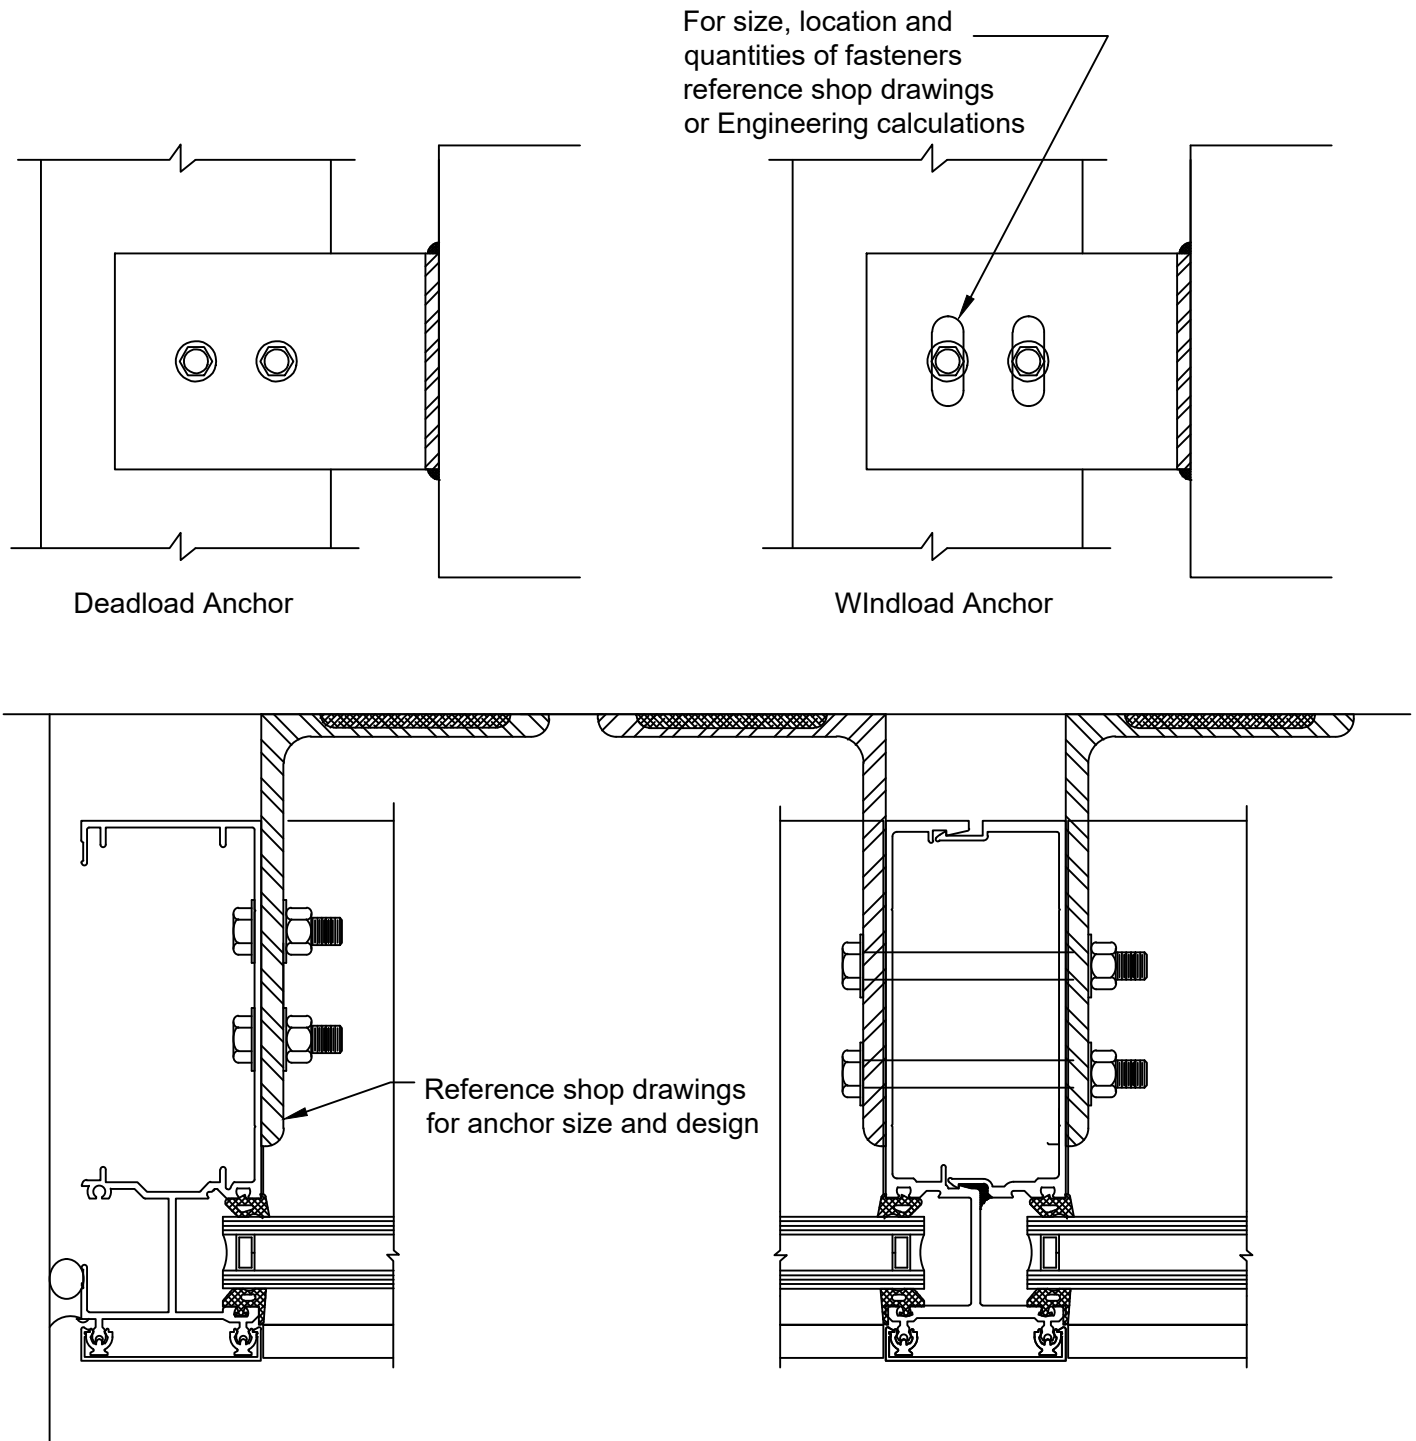

FIGURE 19
- 3.10 Mid span anchors will be located based on engineer's calculations. Typical anchors are shown in FIGURE 19, page 18. Size and design of anchor, as well as, bolt size and quantity to be based on project requirements and engineer's calculations.